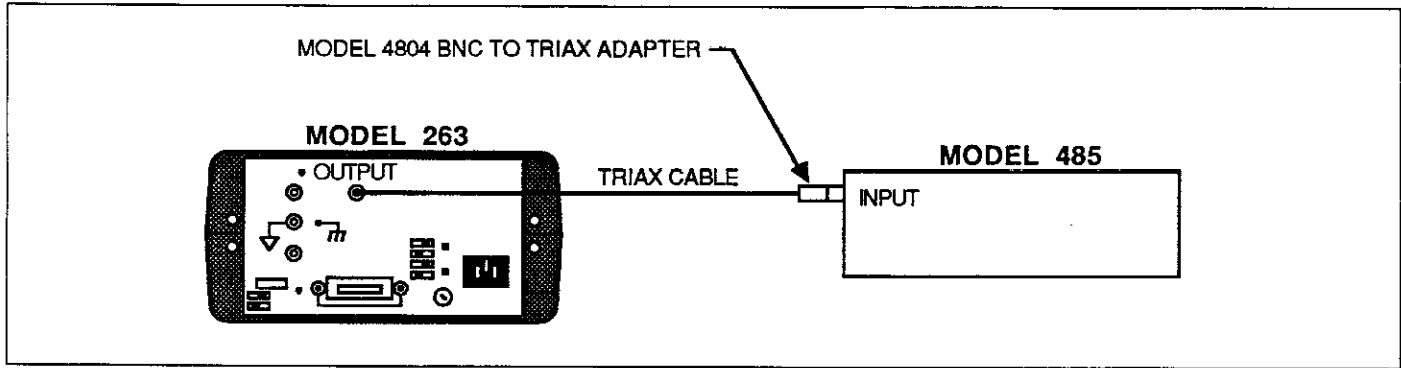

Figure 2. Model 485 Calibration Connections
3. Connect the output of the Model 263 Calibrator/Source to the input of the Model 485 as shown in Figure 2. Make sure the calibrator is in standby.
110 DISP "CONNECT 263 OUTPUT TO 485 INPUT (SEE FIGURE 2).'"